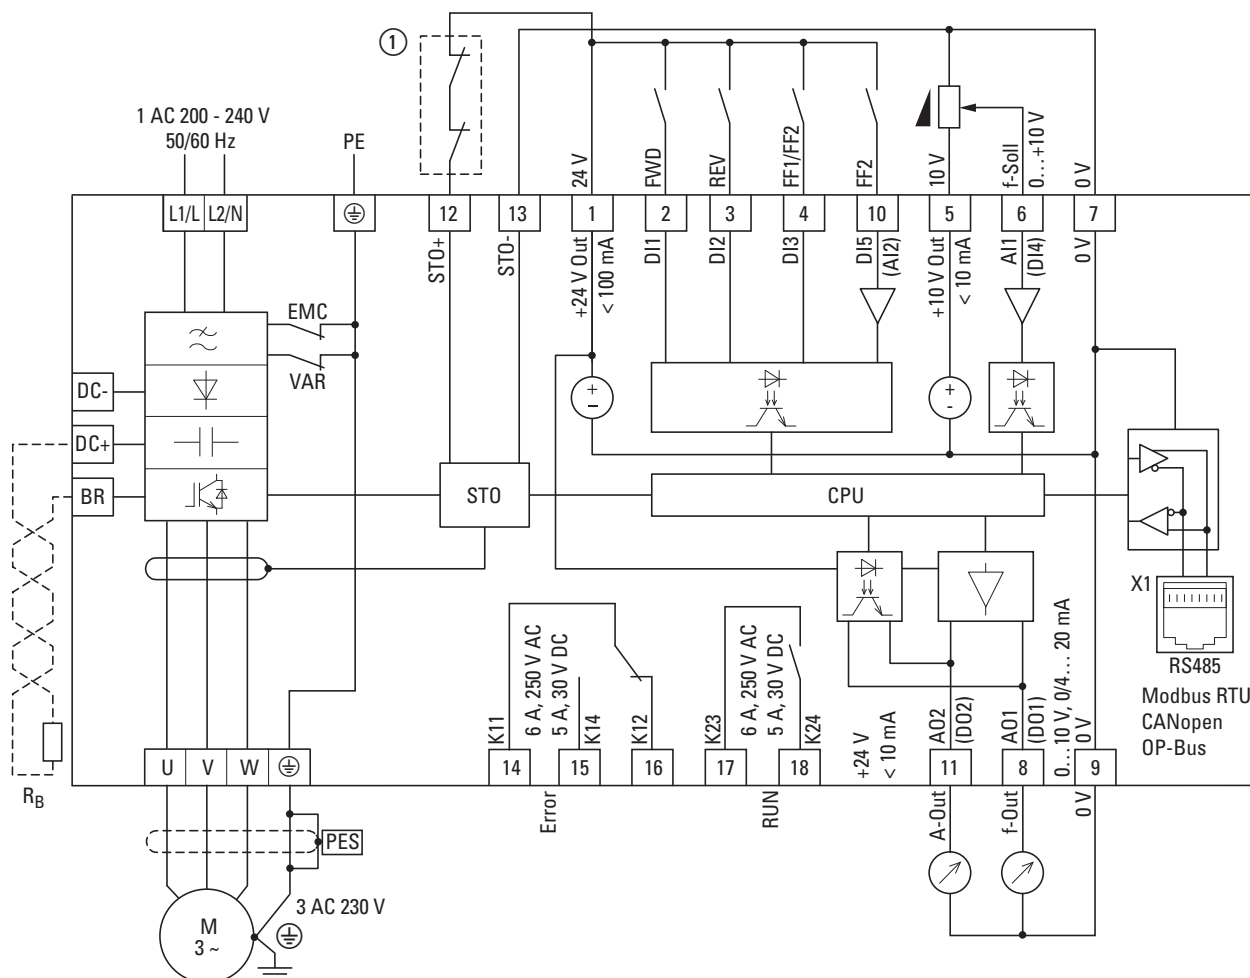

Figure 84:Block diagram DA1-12...
① Direct enable signal for STO function or relay: Safe Torque Off (STO), SIL 2 (EN 61800-5-2) as in → Figure 84, page 115.